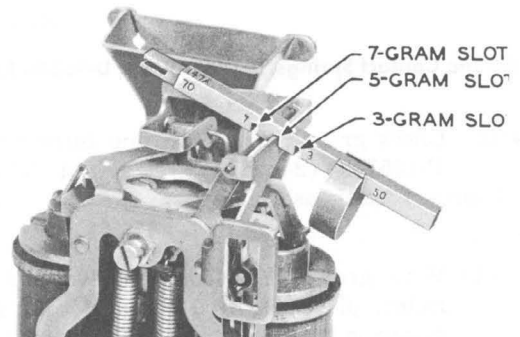

Fig. 3 — Gauge for Ground Contact Spring Force
- (1) With ground lead connected to coin collector, place required gram slot of 147A gauge on horizontal portion of switch lever.
- (2) Connect hand test set across line terminals of coin collector, and trip coin trigger. Dial tone will be heard in dial areas, or operator will answer in manual areas. If not, proceed as follows:
- (3) Ground contact-spring force for P-145749 (2-spring) relays should be a minimum 5 grams measured with the 147A gauge as shown in Fig. 3.
- (4) Ground contact-spring force for D-96590 (3-spring) relays should be minimum 3 grams measured with 147A gauge 3-gram slot as shown in Fig. 3. Contact requirements are as follows: